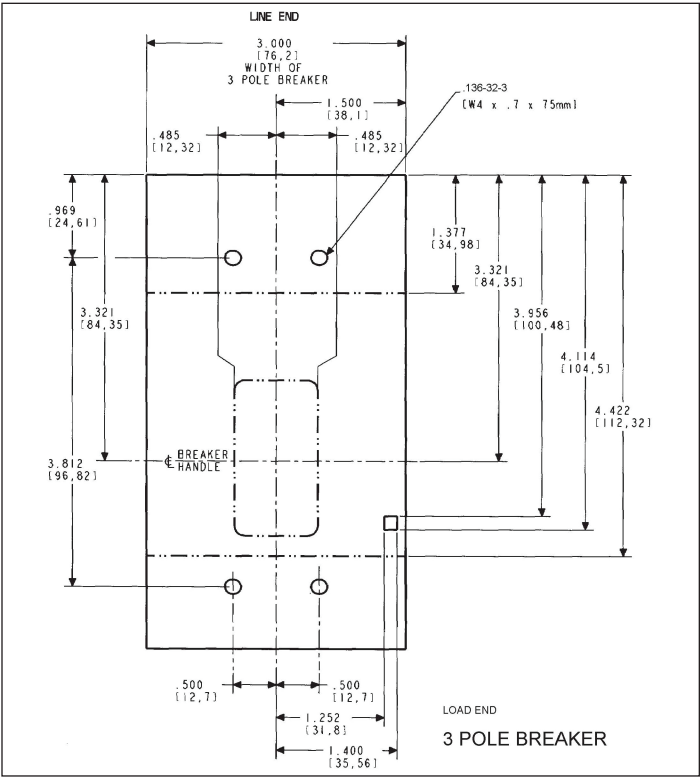

Figure 8. Circuit Breaker Mounting Bolt Drilling Plans and Escutcheon Dimensions.
- a. For individual surface mounting, drill mounting panel using the drilling plan shown in (Fig. 8). For panelboard mounting, only load end support mounting holes are required. For dead front cover applications, cut out cover to correct escutcheon dimensions.